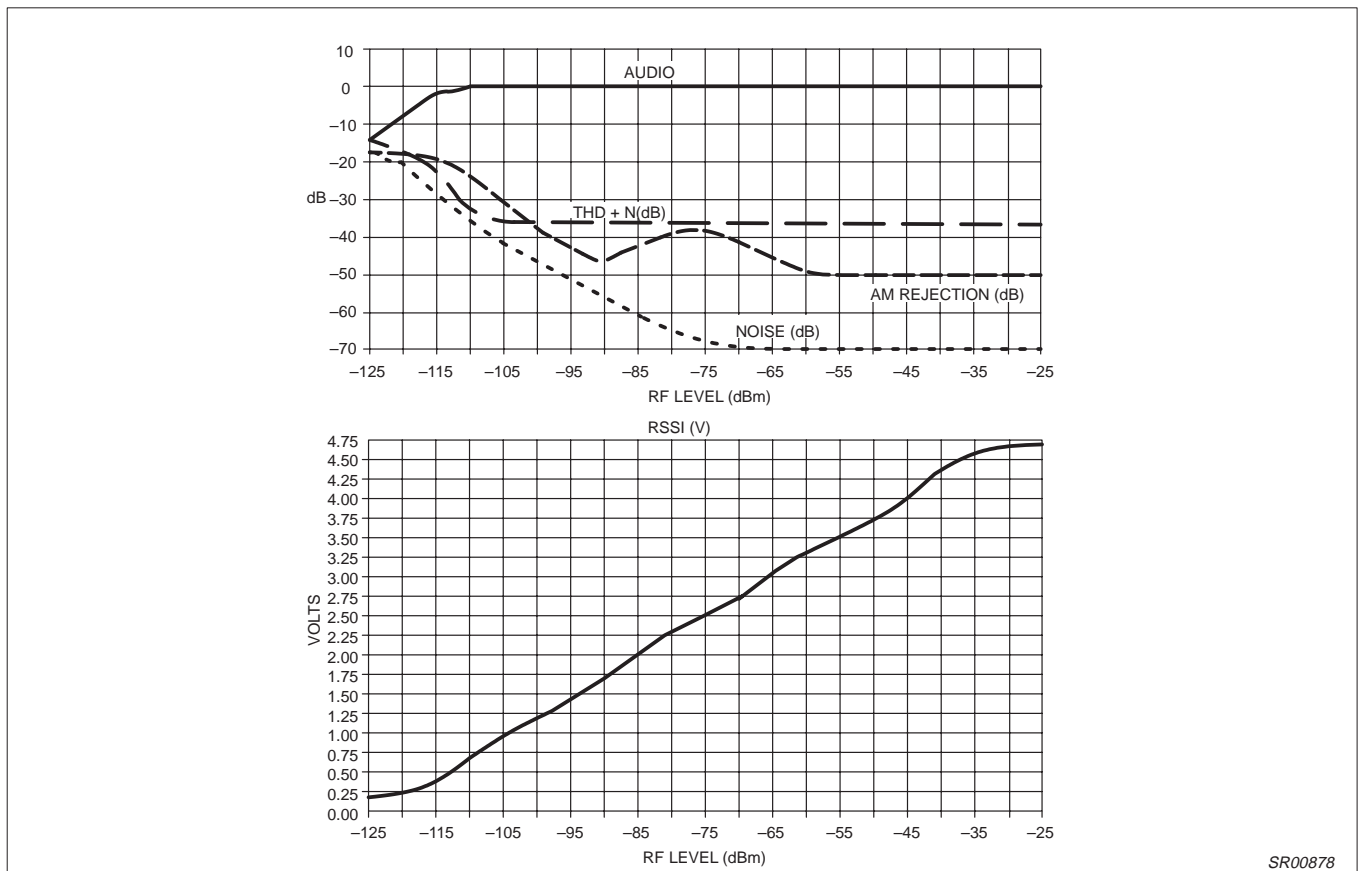

Figure 3. SA605 SO Performance Curves
- The SO SA605 board performance graphs can be found in Figure 3.